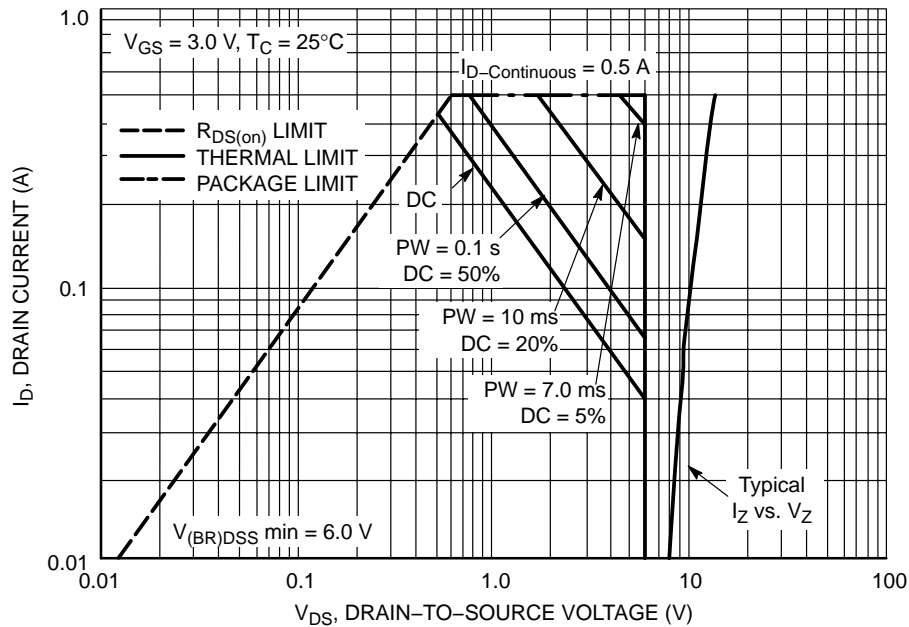

Figure 10. Safe Operating Area for NUD3105DLT1
3. Use Figures 10 and 11 with the SOA notes to insure that instantaneous operation does not push the device beyond the limits of the SOA plot.